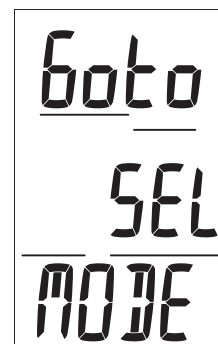

Fig. 41 - Set M LEAD-IN
**Select Mode Lead-in**, information includes (Fig. 41):